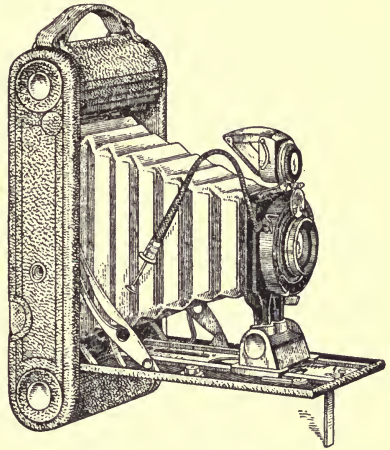

FIG. 40. — Folding camera.
**The camera.** An ordinary focusing kodak (see figures 40 and 41) consists of the following parts: a light-proof box, which may be drawn out in the form of a bellows, a lens in the front end of this, which focuses an image on a film or plate placed at the back of the box. In front of the lens is the diaphragm with an adjustable opening